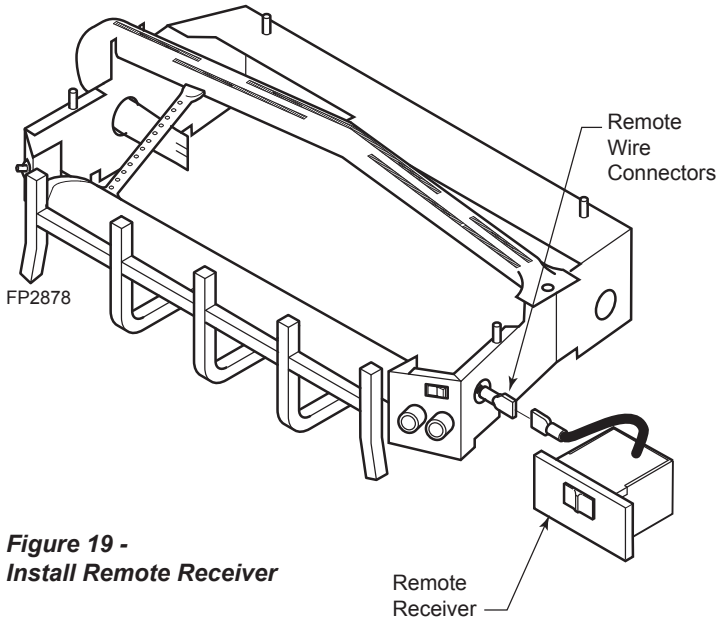

Figure 19 - Install Remote Receiver
Connect the connectors to the two (2) .25" male connectors located on the right side when facing the unit. Figure 19. Do not allow the wire to touch the grate or burners.